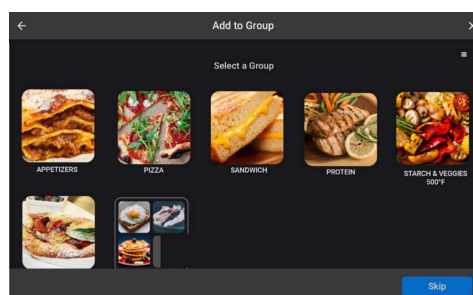

Figure 31: Select Groups to Place Recipe Into
10. Select which group(s) to which the recipe will be added (Figure 31, below).